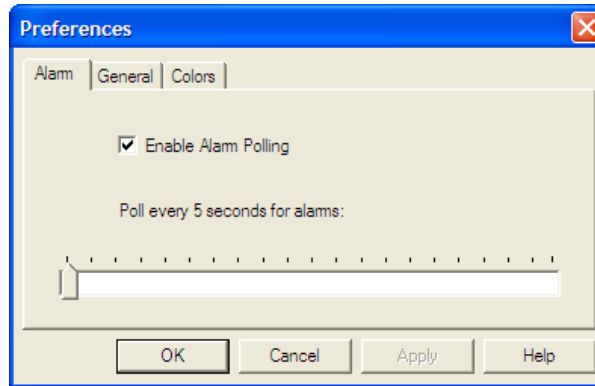

Figure 5-15. Preferences Dialog Box
2. On the **Edit** menu, click **Preferences** (Figure 5-15).